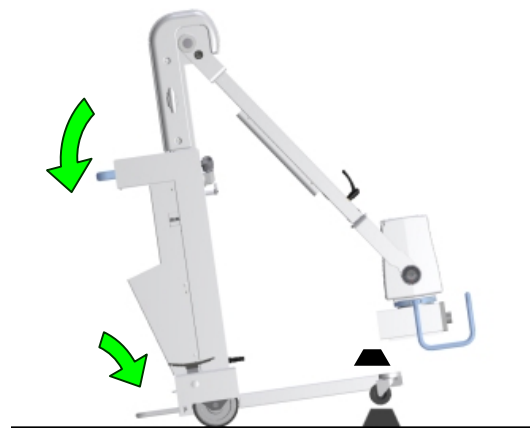

Figure 8
- In order to overcome obstacles, push on the pedal with the foot and, at the same time, pull inward the transport handle (Figure 8).